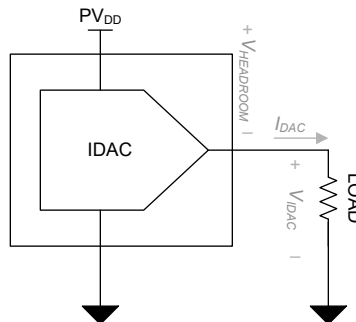

図 8-2. IDAC Power Dissipation
- The power dissipation of the IDAC channel is a function of the PV_{DD} supply voltage, the current output, and the voltage of the IDAC pin (V_{IDAC}). The headroom voltage ($V_{HEADROOM}$) is calculated as the difference between PV_{DD} and V_{IDAC} . Minimize $V_{HEADROOM}$ to reduce the power dissipation of the device while also meeting the minimum $V_{HEADROOM}$ requirement. The IDAC output cannot source the full-scale current output if $V_{HEADROOM}$ is lower than the specified voltage. 図 8-2 shows the output current directions and the key voltages that impact power dissipation. The IDAC output contributes to power dissipation proportionally to the output current multiplied by the $V_{HEADROOM}$ voltage.